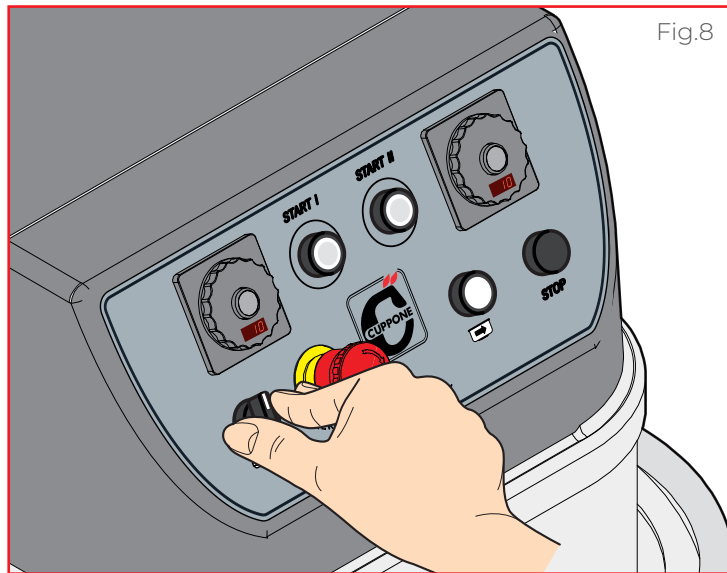

Fig.8
► Fig.8 Rotating the **lever** (7), it is possible to check the bowl rotation (only in **START I** way - low speed):